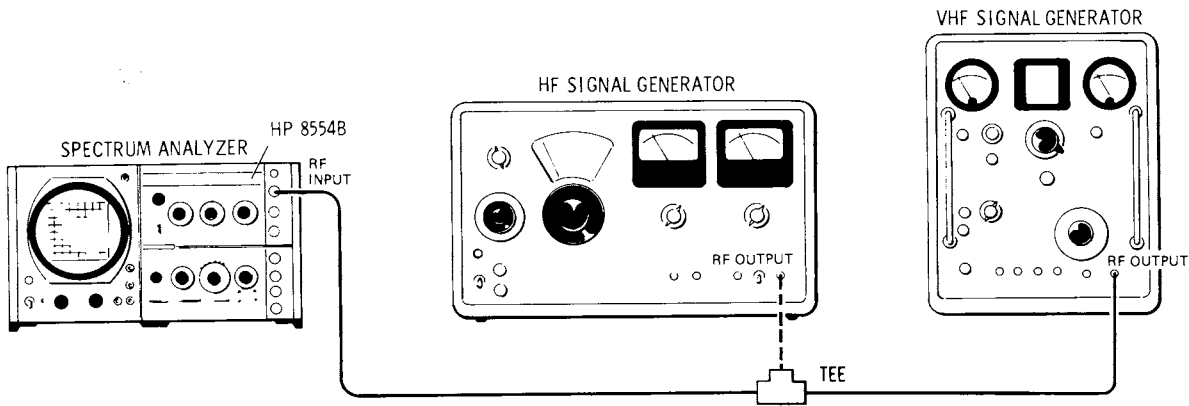

Figure 4-5. Spurious Responses Test Setup
1. Connect the test setup shown in Figure 4-5 and set the analyzer as follows: